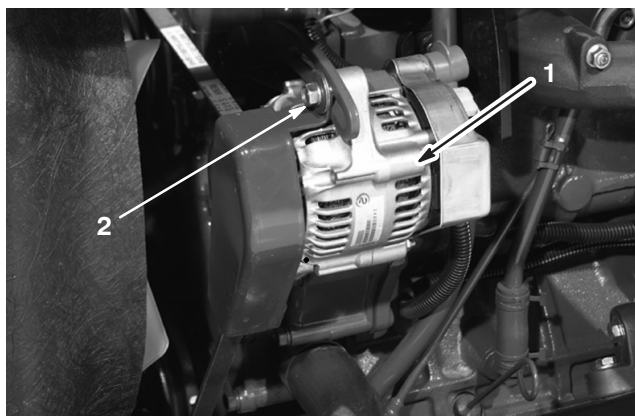

Figure 52
Check the condition and tension of the belts (Fig. 52) after every 100 operating hours.
- If the deflection is not 3/8 in. (10 mm), loosen the alternator mounting bolts (Fig. 52). Increase or decrease the alternator belt tension and tighten the bolts. Check the deflection of the belt again to ensure that the tension is correct.